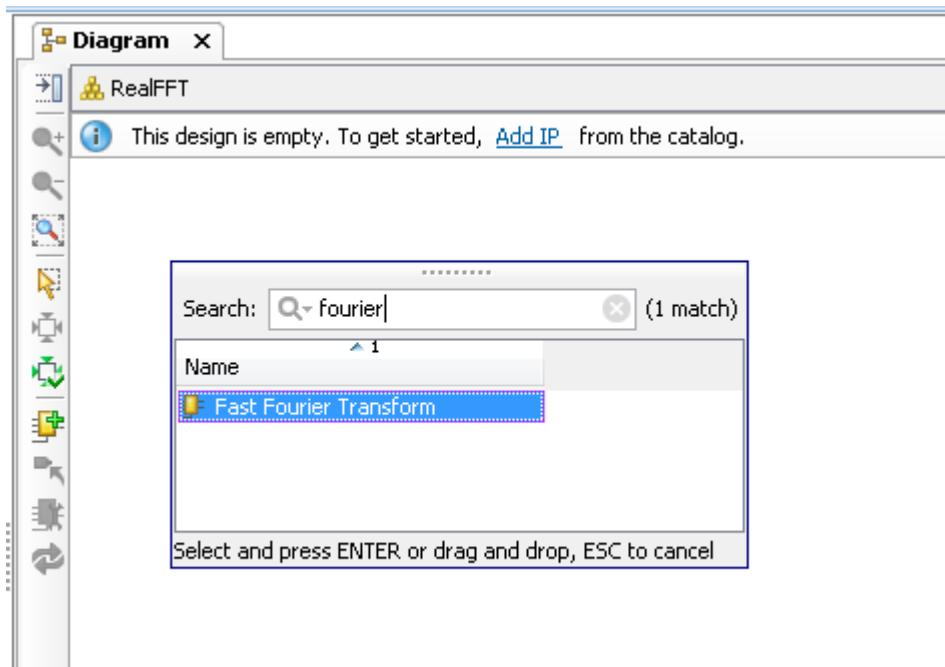

Figure 197 Add the Xilinx FFT IP
2. In the Diagram tab click on the Add IP link in the "get started" message (Figure 197)